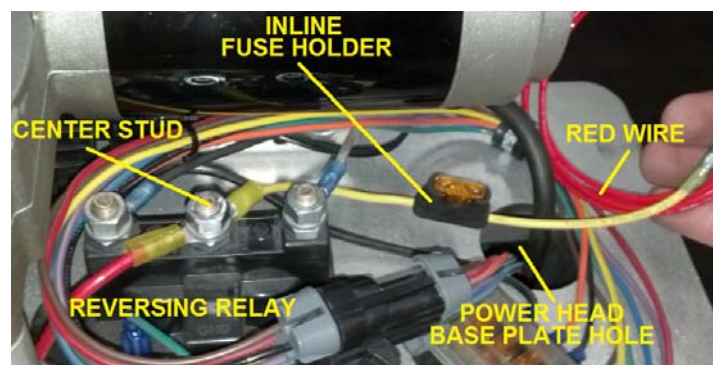

FIG. 11.6
7. Install 5/16" ring terminal on yellow wire with inline fuse holder over center stud. Replace nut, tighten securely. (FIG. 11.6).
8. Route the red wire (attached to yellow fuse wire in FIG. 11.6) down through the cable access port (FIG. 5.6) and run parallel to the AC power cord down right side of lift tower behind wire hold-downs. (FIG. 5.7, 11.6). String red wire down to match the length of the other two plugs (FIG. 11.7).